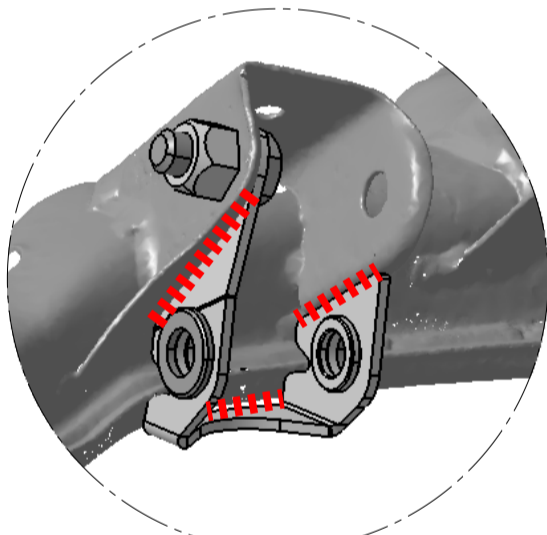

FIGURE 1
8. WELD AS SHOWN IN FIGURES 1. AND 2.